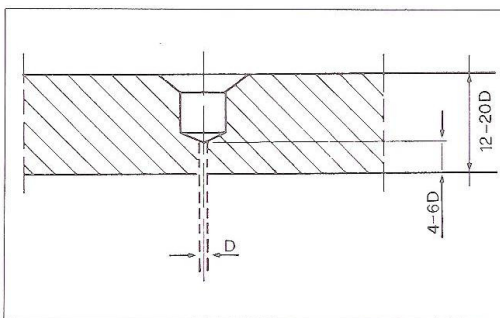

Fig. 22 - Optimum profile of die orifice.
- 3) die. The die hole diameter varies from 0.5 to 1.5 mm, according to the deniers required, and the length/diameter ratio varies from 5 to 20. Experience shows that the best de-hole profile, as far as the absence of dangerous rheological phenomena is concerned, is the one shown in figure 22